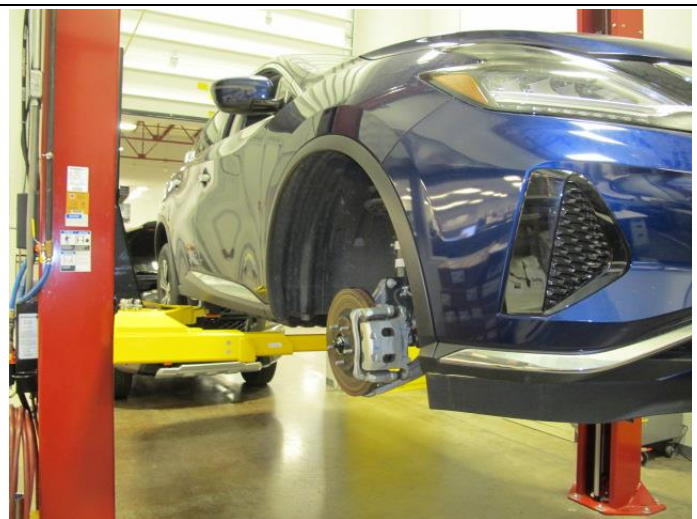

Figure 8
8. Using the lift, lower the vehicle halfway down to gain access to RH wheel well area (Figure 8).